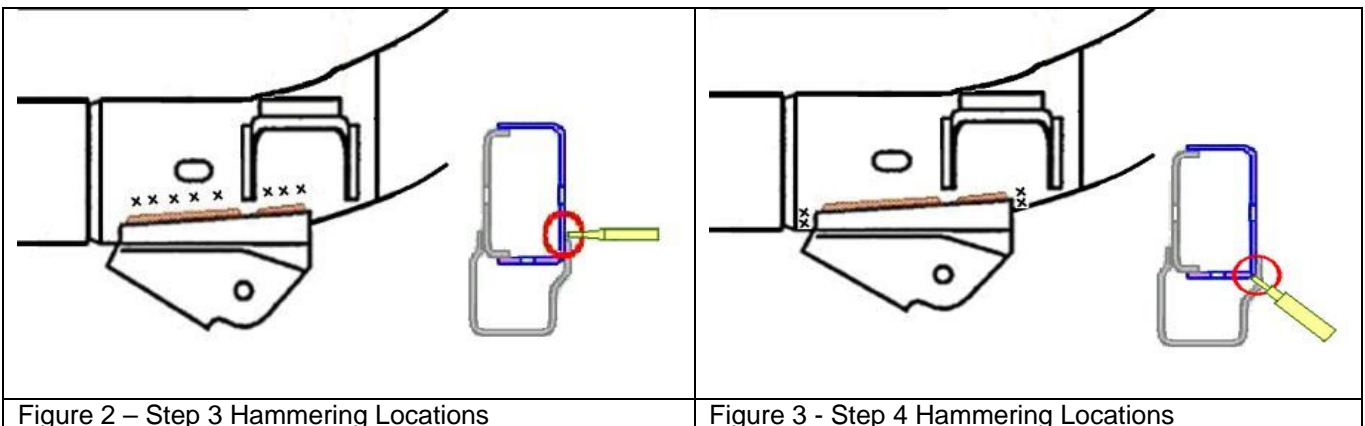

Figure 1
2. Visually inspect the Rear Lower Trailing Link Front Mounting Bracket inspection area. Use the Visual Comparison Photo (P/N 2-90SVA-003-0) or Figure 1 for reference. If most of the frame coating is still in place and very little surface rust is present, apply Noxudol 300 (Go to "Condition One: Apply Noxudol 300" in this bulletin). If most frame coating is missing and excessive rust is present go to the next step.